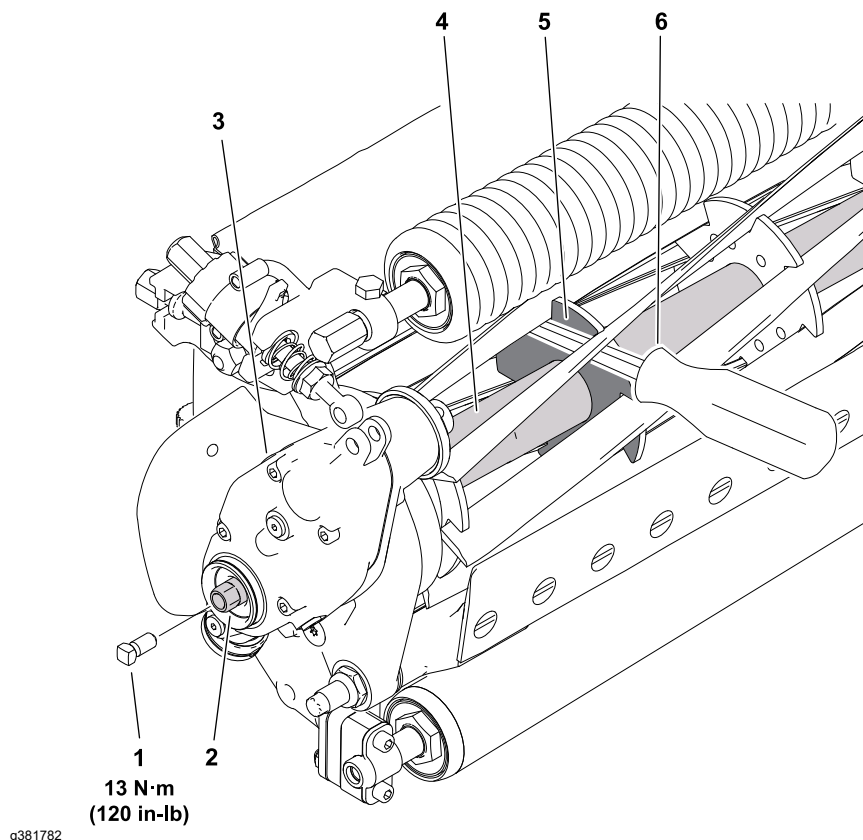

Figure 119
4. Install a 5/16–18 X 5/8 inch square head set screw (Toro p/n 1-803022) in the end of the drive shaft and tighten to **13 N·m (120 in-lb)**; refer to Figure 119.